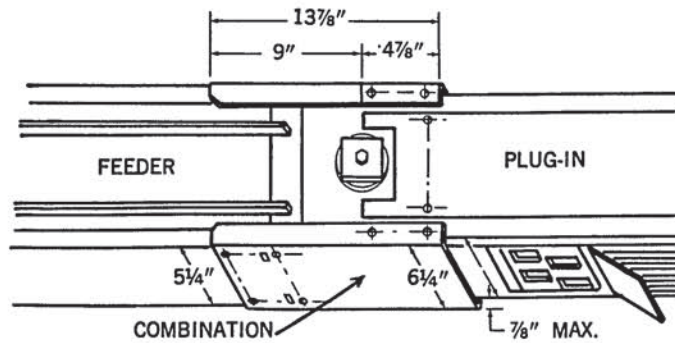

FIGURE 8
2. The joint cap required between a plug-in straight length and feeder type busway piece is  $13\frac{7}{8}"$  long, and these joint caps will be assembled to the feeder piece when shipped from the factory. See Figure 8. The joint cap between two feeder busway pieces is 18" long.